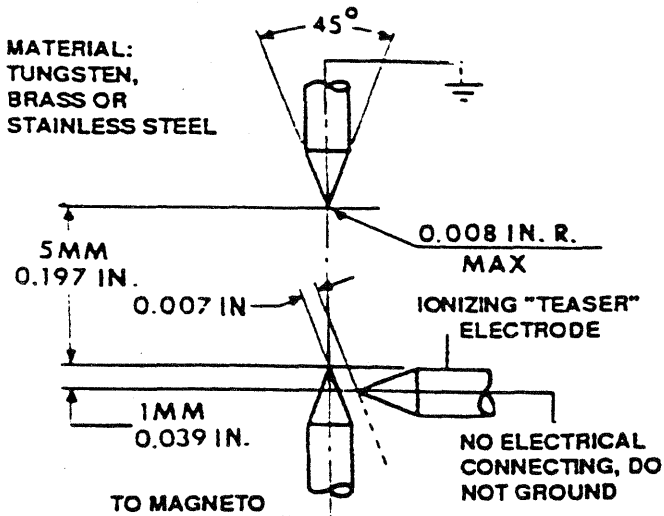

Figure 301. 5 mm Spark Gap Setting
- A. Mount magneto on a 11-10500 test stand. Connect high voltage outlet to spark gaps on test stand using a standard harness assembly. Set spark gaps at 5 mm (0.197 in) as shown in figure 301. Using an oscilloscope and high voltage probe, adjust gaps to fire at 10,000 volts minimum.